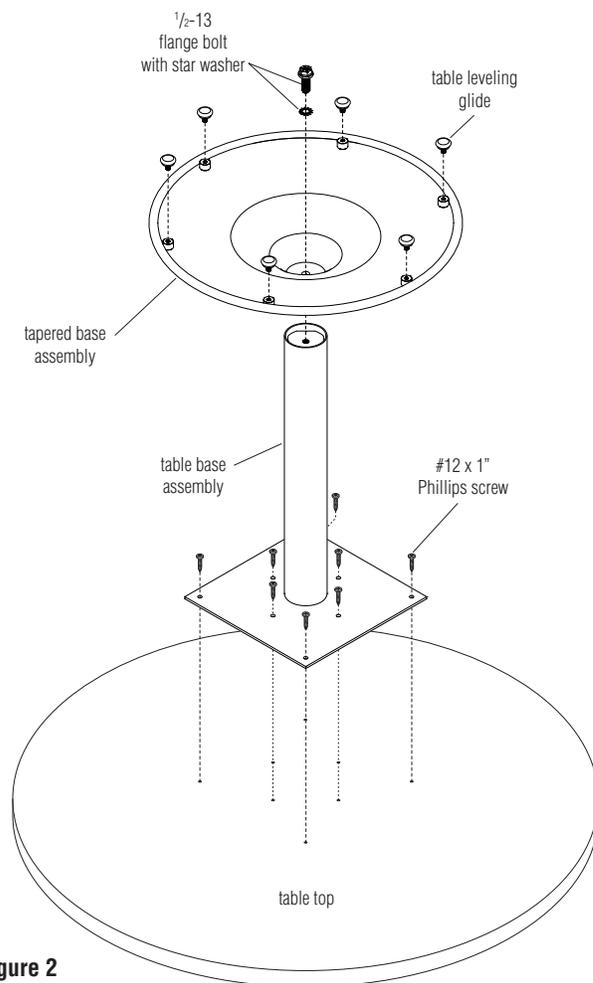

Figure 2
3. Carefully flip the table column assembly over so the table support plate is down. Position the tapered base assembly over the table column as illustrated, aligning the mounting hole in the disk with the threaded plate in the column. Insert a star washer onto the $\frac{1}{2}$ -13 flange bolt and thread the bolt with washer through the disk and into the column to secure. Tighten bolt to between 70 and 90 foot pounds of force (Figure 2).
5. Carefully set table top upside down onto a soft, protective surface. Position the table support plate of the table base assembly over the appropriate pre-drilled hole pattern in the underside of the worksurface. Secure using eight #12 x 1" Phillips pan head screws. Do not over-tighten (Figure 2).